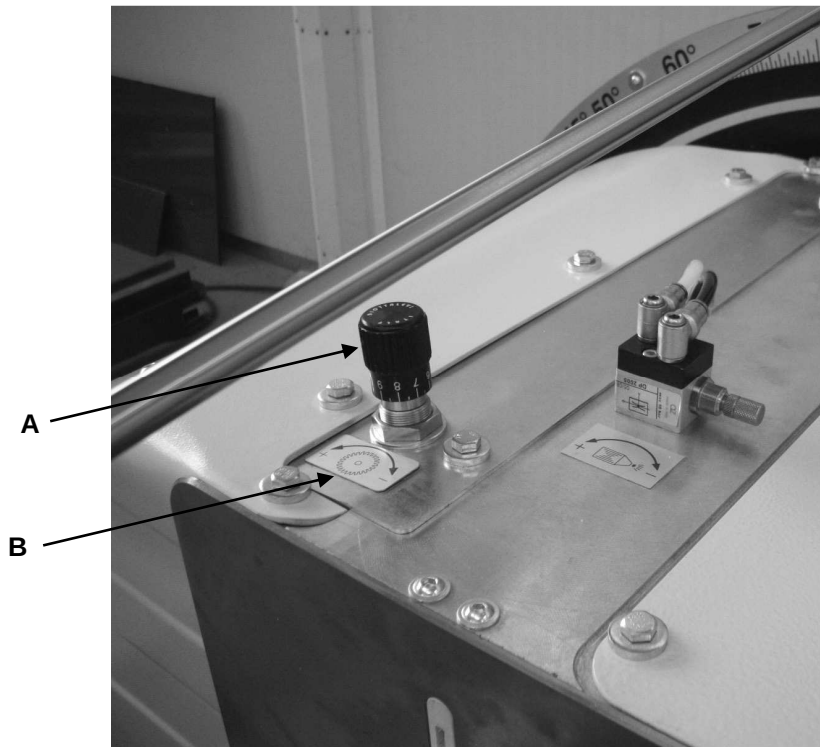

Fig. 09-02
9.2 ADJUSTING THE BLADE FEED RATE (Fig. 09-02)